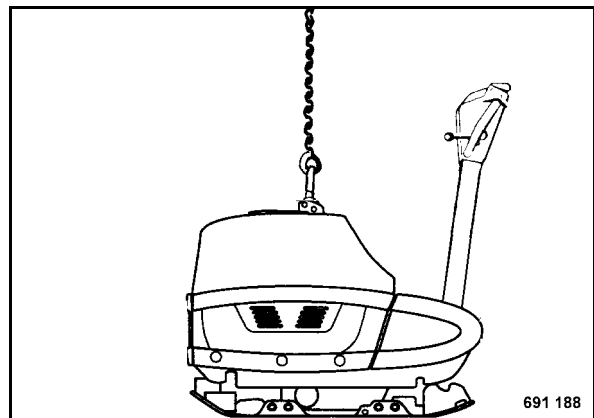

Fig. 41
- Always attach the lifting tackle to the lifting eye to load the vibratory plate (Fig. 41) on a transport vehicle.